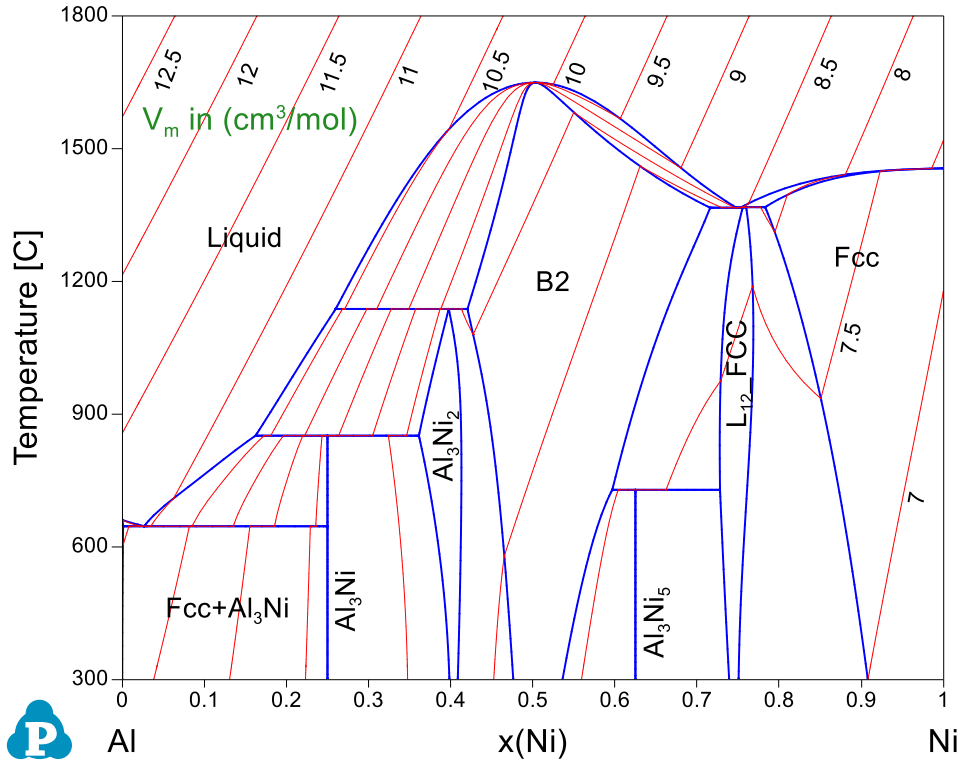

Figure 1.21.1: Al-Ni binary phase diagram with the calculated contour lines of molar volume (cm³/mol).
The parameters for the property are defined in the format similar to that of the Gibbs energy. An example file “AlNi.tdb” is included in the Pandat example folder. A batch file “Example_#1.22.pbf” is also included in the same folder, which produces an identical contour diagram as shown in Figure 1.21.1 except that the property name is U instead of V_m . It should emphasize again that U can be any property.
- Click OK and perform calculation to obtain Figure 1.21.1